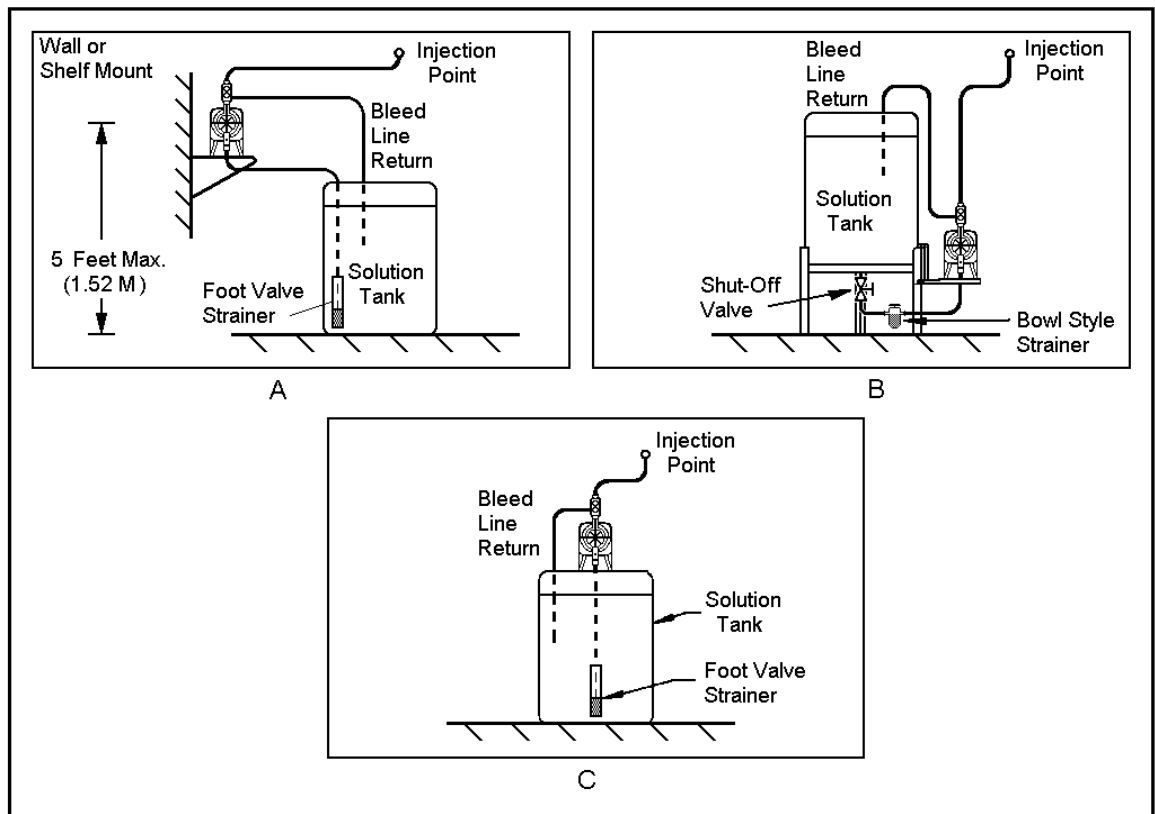
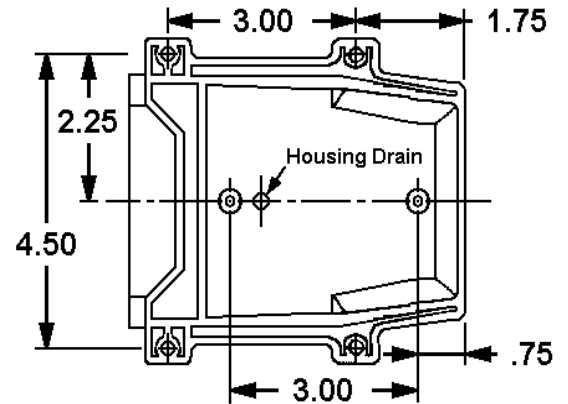

Figure 2
Figure 3
- Text that has been formatted ***bold*** and *italicized* (e.g., ***Figure 2-C***) indicates reference text.
Typical mounting arrangements are shown in *Figures 2-A, 2-B, & 2-C*.
1. For wall or shelf mounting refer to *Figure 2-A*. Connect suction tubing to the suction valve of the chemical pump. (The suction valve is the lower valve.) The tubing should be long enough that the foot valve/ strainer assembly hangs about 2-3 inches above the bottom of the chemical (solution) tank. To keep the chemical from being contaminated, the tank should have a cover.
2. Flooded suction mounting (installing the pump at the base of the solution storage tank, *Figure 2-B*) is the most trouble free type of installation and is recommended for very low output requirements. Since the suction tubing is filled with chemical, priming is accomplished quickly and the chance of losing the prime is reduced.
To mount the pump, drill 4 holes of 1/4" diameter in the shelf as shown in the dimension drawing (*Figure 3*). Attach the pump securely using four #10 bolts, nuts and lock washers.
3. The pump can be mounted to a wall as shown in *Figure 2-A*. A wall mount bracket kit is available which includes all necessary hardware to mount the pump to the bracket and the bracket to the wall. Mounting dimensions for the pump are provided in *Figure 3*.
4. The pump can be mounted on top of a solution tank as shown in *Figure 2-C*. Install the chemical pump on the cover. Insert suction tubing through the center hole and cut the tubing so that the foot valve/strainer hangs about 2-3 inches above the bottom of the tank. Mount the chemical pump rigidly by drilling four 1/4" holes and using four #10 bolts, nuts and lock washers.
6. To prevent clogging or check valve malfunction, always install a strainer assembly to the end of the suction tubing. (*Figure 2-C*). This foot valve/strainer assembly should always be installed 2 to 3 inches above the bottom of the chemical tank. This will help prevent clogging the strainer with any solids that may settle on the tank bottom. The chemical tank and foot valve/strainer should be cleaned regularly, to ensure continuous trouble operation. If the chemical being pumped regularly precipitates out of solution or does not dissolve easily or completely (e.g. calcium hydroxide), a mixer should be used in the chemical tank. These are available in many motor configurations and mountings. To obtain a mixer, contact your supplier.